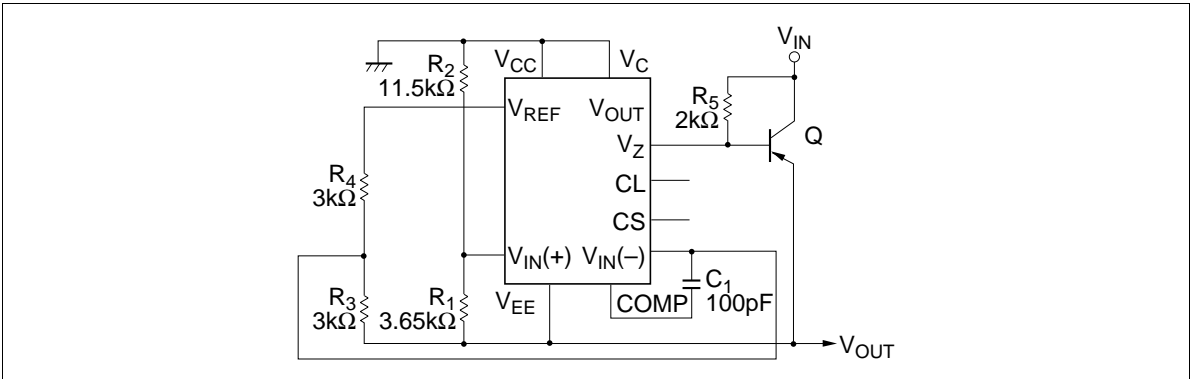

Figure 3 Negative Voltage Regulator
**Negative Voltage Regulator:** Figure 3 shows the construction of a so-called negative voltage regulator, which generates a negative output voltage with regard to GND. Assume that the output voltage,  $-V_{OUT}$ , increases in the negative direction. As the voltage across the  $R_1$  is larger than that across the  $R_3$ , which provides the reference voltage, the output current of the error amplifier increases. In the control circuit, the impedance decreases with the increase of input current, which makes the base current of the external transistor Q approach GND. As a result, the output voltage returns to the established value and output voltage is stable.